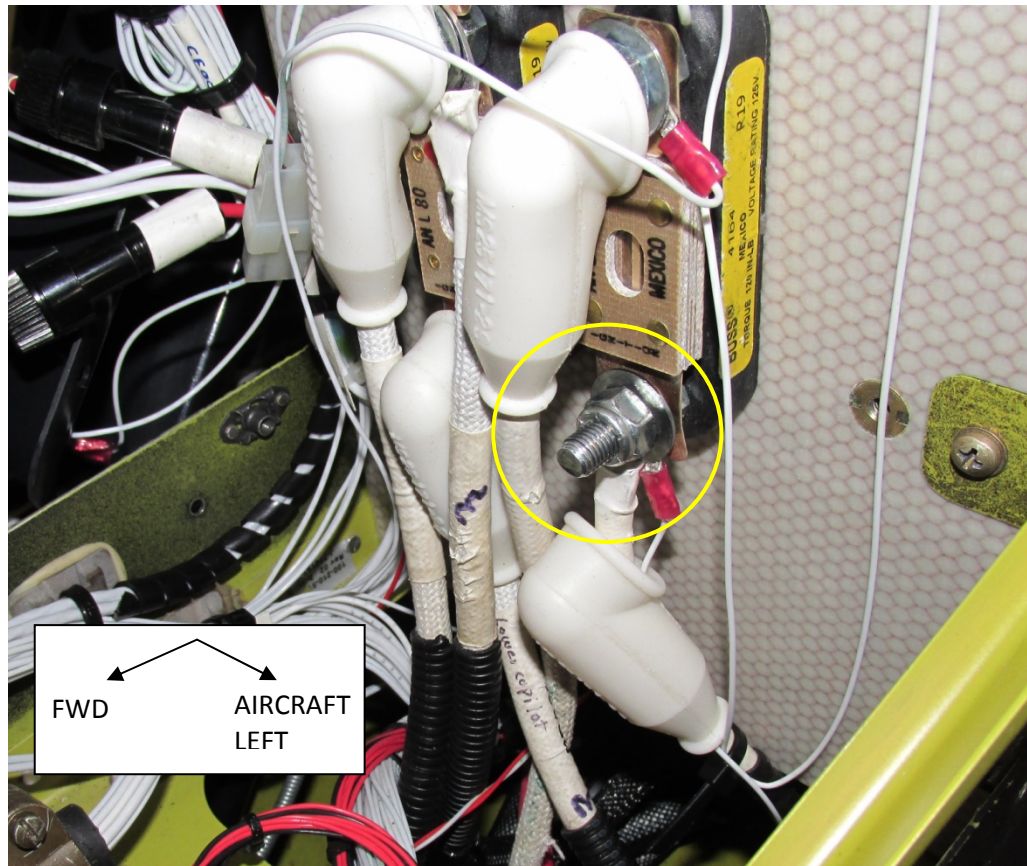

Figure 5-9: Fuse Block Connection
20. Secure the ring terminal and the PD028 cable onto the 50 AMP fuse block. See **Figure 5-9**.